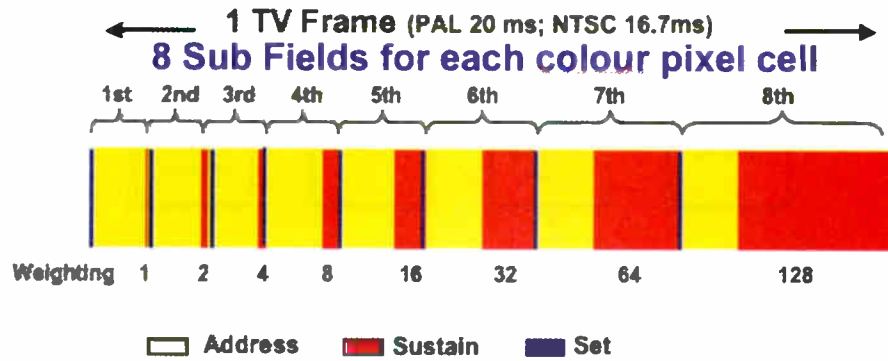

Fig. 8: The sub-field drive system.
- Figure 8 mains input connector. 2.1 mm Female PSU plug